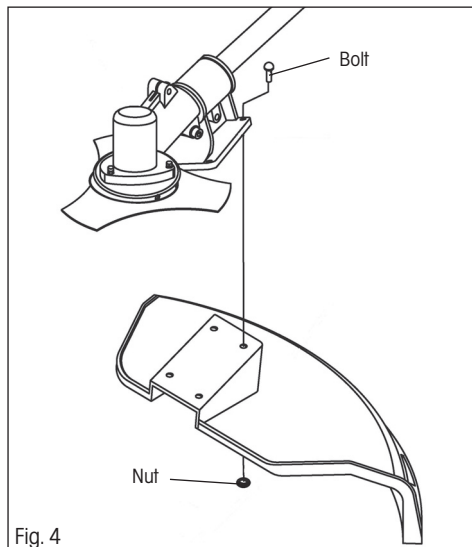

Fig. 4
- ❁ Install the protective guard on to the shaft using the supplied screws and nuts (see fig. 4)